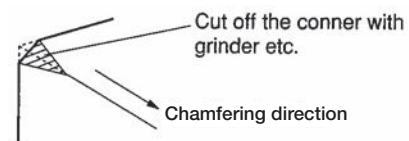

Fig. 6
- (1) When you start to work from the corner as shown in Fig.6, cut off the corner first with grinder etc., then start.
- (2) Before start chamfering, make sure that the Switch is set on and the Indexable Insert is rotating. Then, apply the tool to the workpieces. The Indexable Inserts may be damaged if the Switch is set on after Indexable Inserts are pressed on the workpieces or they may also be damaged if they are pressed to the workpieces abruptly.
- (3) The workpieces should be fixed as much as possible while working.